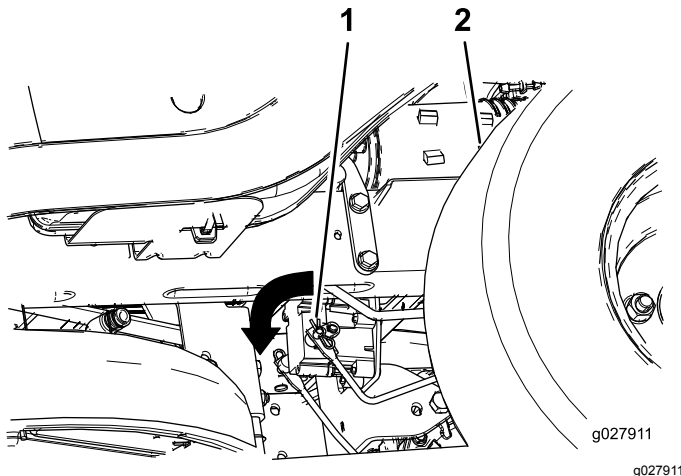

Figure 43
2. Locate the shaft on the electric brake where the brake-link arms are connected (Figure 43).